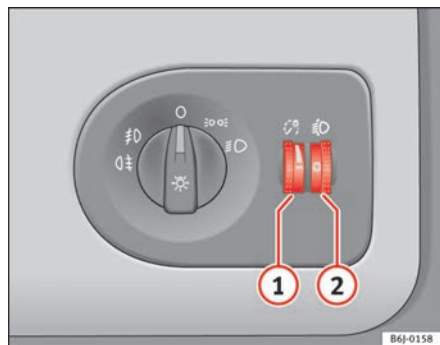

Fig. 53 Instrument panel: regulation for instrument and switch illumination and headlight range control
When the headlights are switched on, the brightness of the instruments and switch lighting can be regulated to suit your requirements by turning the thumb wheel → fig. 53 ①.